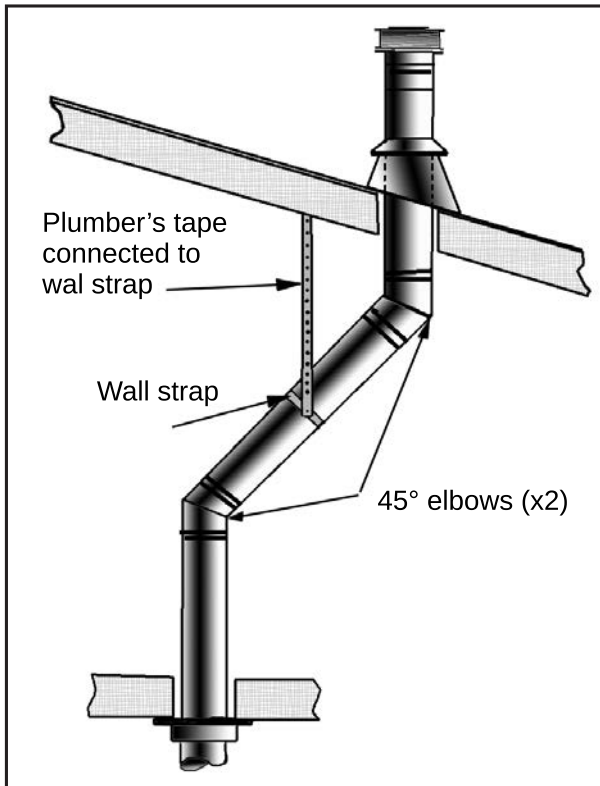
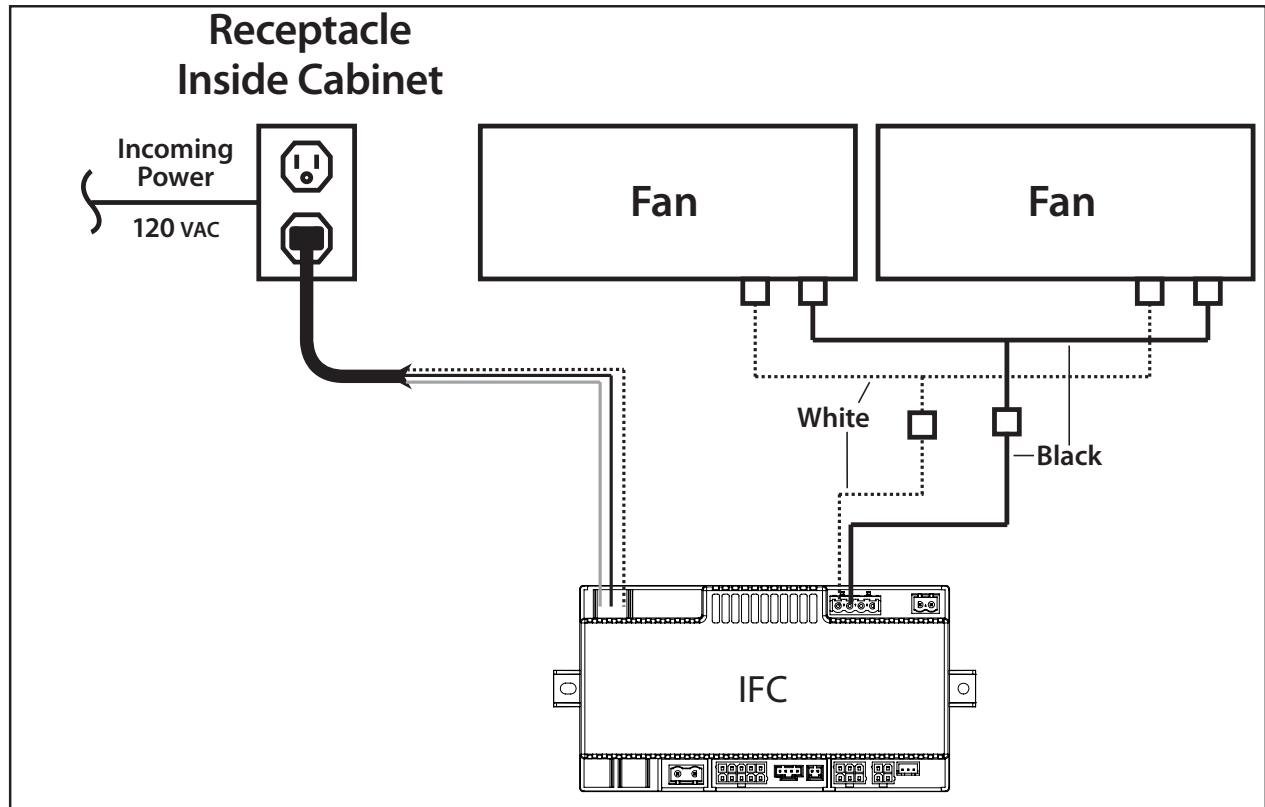

Figure 51: Use of Wall Straps.
Figure 56: Fan Kit Wiring Diagram
- (1) If an offset is necessary in the attic to avoid obstructions, it is important to support the vent pipe every **3' (914 mm)**, to avoid excessive stress on the elbows, and possible separation. Wall straps are available for this purpose (see Figure 51).
- (2) When ever possible, use 45° degree elbows instead of 90° degree elbows. The 45° degree elbow offers less restriction to the flow of flue gases and intake air.
- (3) For multi story installations; a ceiling firestop is required at the second floor, and any subsequent floors (see Figure 56). The opening should be framed to **10" (254 mm) x 10" (254 mm)** inside dimensions, in the same manner as shown in Figure 44.